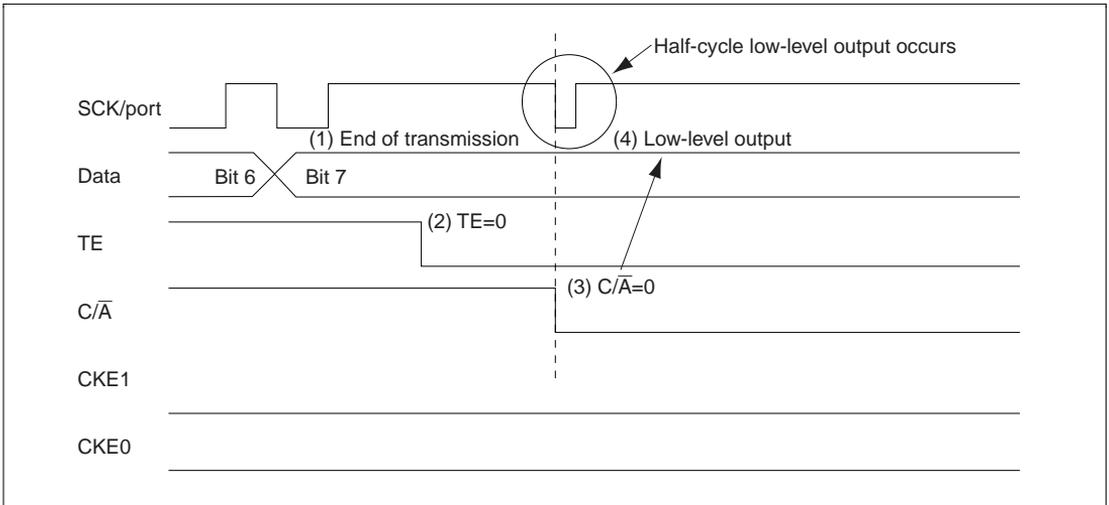

Figure 11-23 Operation when Switching from SCK Pin Function to Port Pin Function
- (1) End of serial data transmission
- (2) TE bit = 0
- (3) C/\bar{A} bit = 0 ... switchover to port output
- (4) Occurrence of low-level output (see figure 11-23)